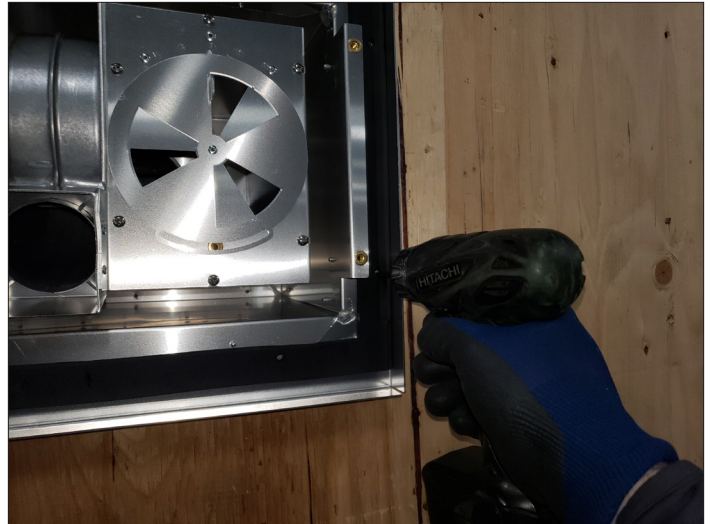

Figure 3.19, Install Cap into Wall
10. Install cap into the wall and attach the cap to the wall using the eight screws provided. See Figure 3.19.